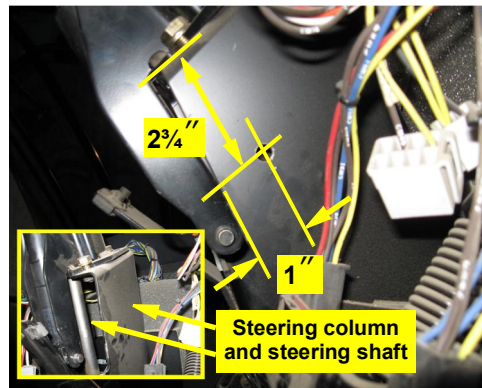

Figure 1c: Location of drilled hole in steering column (see inset for steering shaft location)
- c. Drill a 5/16" hole in the steel steering column 2 3/4" from the top and 1" from the edge (Figure 1c with inset).